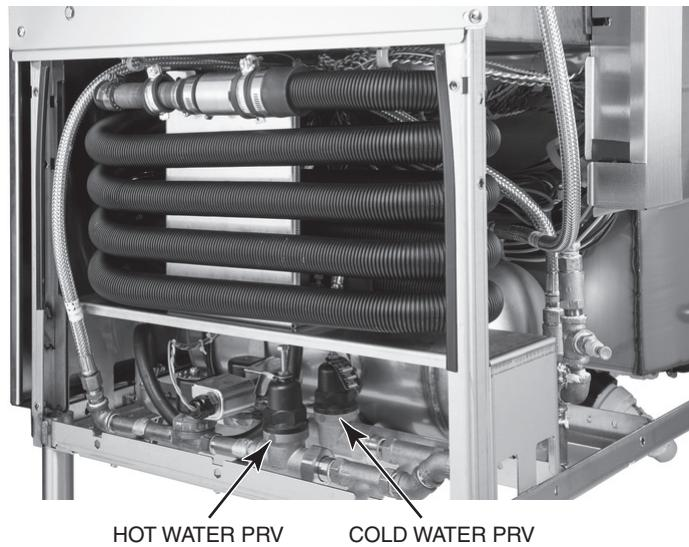

Fig. 20
16. While final rinse water is running, adjust the final rinse cold water pressure regulating valve (Fig. 20) until the final rinse pressure gauge reads 20 ± 5 PSI.